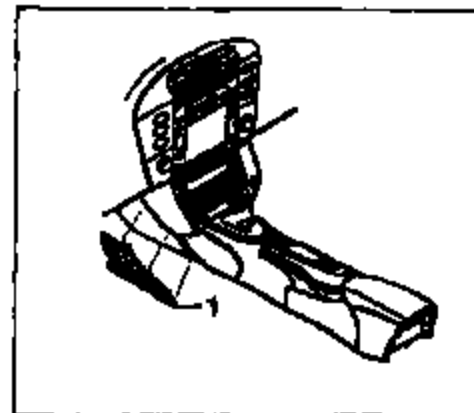

Figure 1
3. Remove cover (1, Figure 1) on the front, left and right in the footwell according to the Technical Manual, Group 6, Chapter 68 17 19. (Figure 1 shows the vehicle with manual transmission)
12. Install cover (1, Figure 1) on the front, left and right in the footwell according to the Technical Manual, Group 6, Chapter 68 17 19.